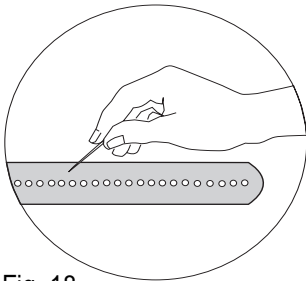
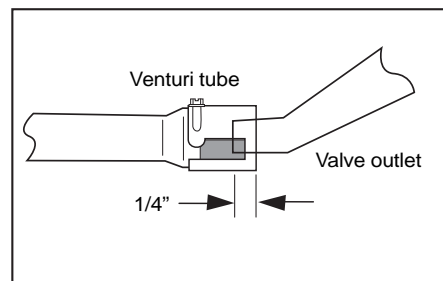

Fig. 18
Fig. 22
- Reinstall the burners properly over the valves (see Fig. 22). Use a wire brush or toothpick to clean the ports all around the sides of the burner (see Fig. 18). It is normal for some surface rust to appear on the burner. Severe rusting can enlarge the gas ports, however, which could cause changes in the Grill's performance.
- Use a wire brush to clean all ports on the sides of the burner (see Fig. 18).
If burners are removed for cleaning or adjustment, always confirm that they have been reinstalled correctly over the valve outlets (see Fig. 22). The valves should extend into the burner venturis approximately $\frac{1}{4}$ ".